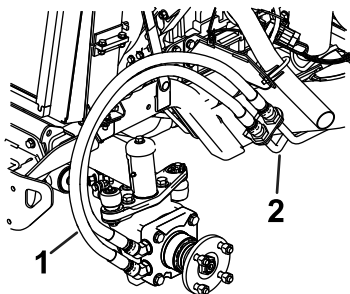
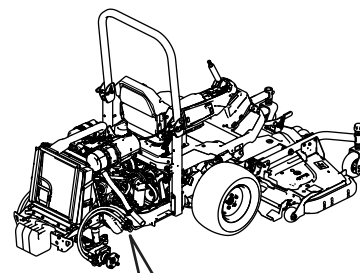

Figure 2
Figure 3
1. Remove the existing hydraulic hoses from the hydraulic lines in front of the wheel and immediately install the caps to the hydraulic lines (Figure 2 and Figure 3).